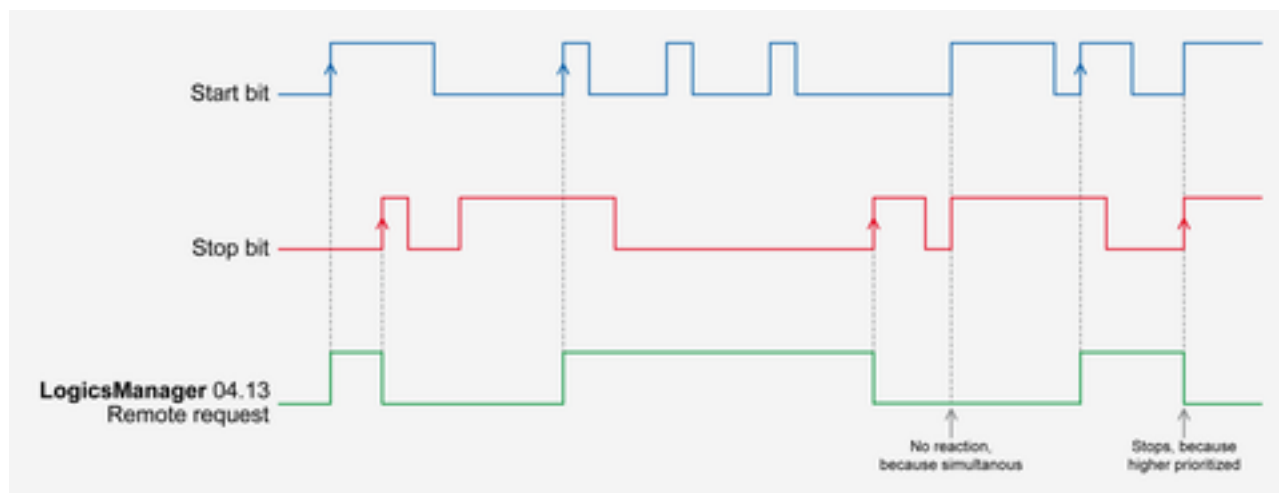

Fig. 355: : Remote control - start/stop priority
*The internal parameter 503 of the easYgen must be set to react on the remote control instructions. This is performed by sending rising signals for the respective bits (refer to Fig. 355 for the priority of start and stop signals).*
Fig. 355 shows the reaction of the command variable on the various status changes of the bits.